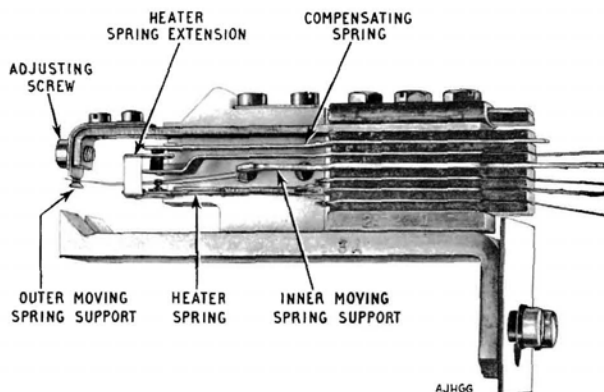
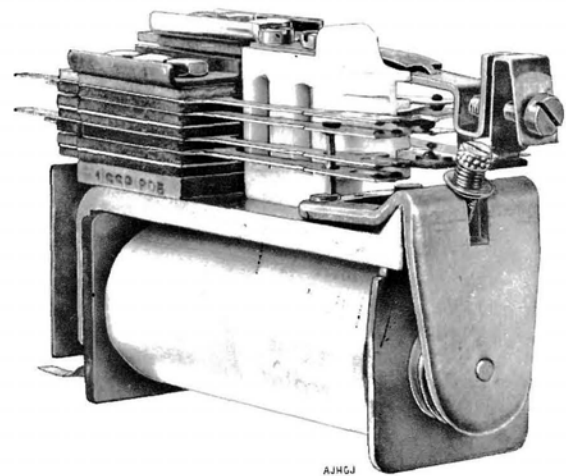

FIG. 1.—MARK 1 THERMAL SPRING-SET
FIG. 3.—COMPOSITE RELAY WITH
3. Marks 1 and 1A.—An improved thermal spring-set is now available and is known as the 'Mark 1A', the earlier spring-set design being referred to hereafter as 'Mark 1'. Figs. 1 and 2 show Marks 1 and 1A respectively, and Fig. 3 shows a composite relay with a Mark 1A thermal spring-set.